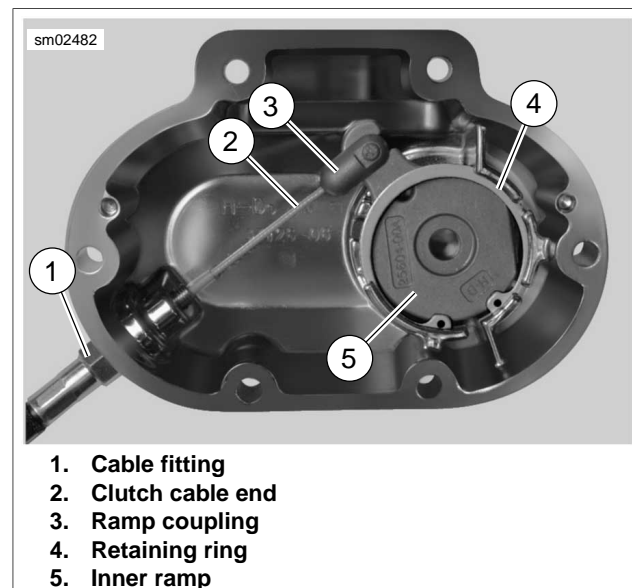

Figure 2-100. Clutch Cable Connection
4. See Figure 2-100. Note position of retaining ring opening. Retaining ring opening must be positioned in approximately the same location during assembly. Remove retaining ring (4).
5. Pull inner ramp and ramp coupling (3) out of side cover. Hold inner and outer ramps together to keep balls from falling free.
6. Rotate the inner ramp to a position which will allow the coupling to be disconnected from the inner ramp lever arm. Disconnect coupling from inner ramp. Disconnect cable end (2) from coupling.
7. Back out threaded cable fitting (1) from side cover.
1. See Figure 2-100. Thread clutch cable fitting (1) (with o-ring) into side cover. Do not tighten at this time.
2. Connect cable end to ramp coupling (3). Rotate ramps for best access and install coupling on inner ramp. Place ramp assembly in position in side cover.